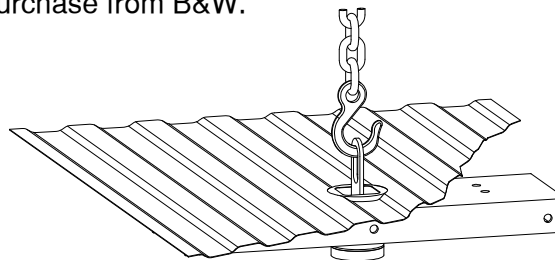

Figure A1: Lifting Device
6. **Prepare a lifting device (optional).** The purpose of the device is to safely hold the hitch in position during part of the installation, see Figure A1 for an example. A simple mechanical lifting device is available for purchase from B&W.